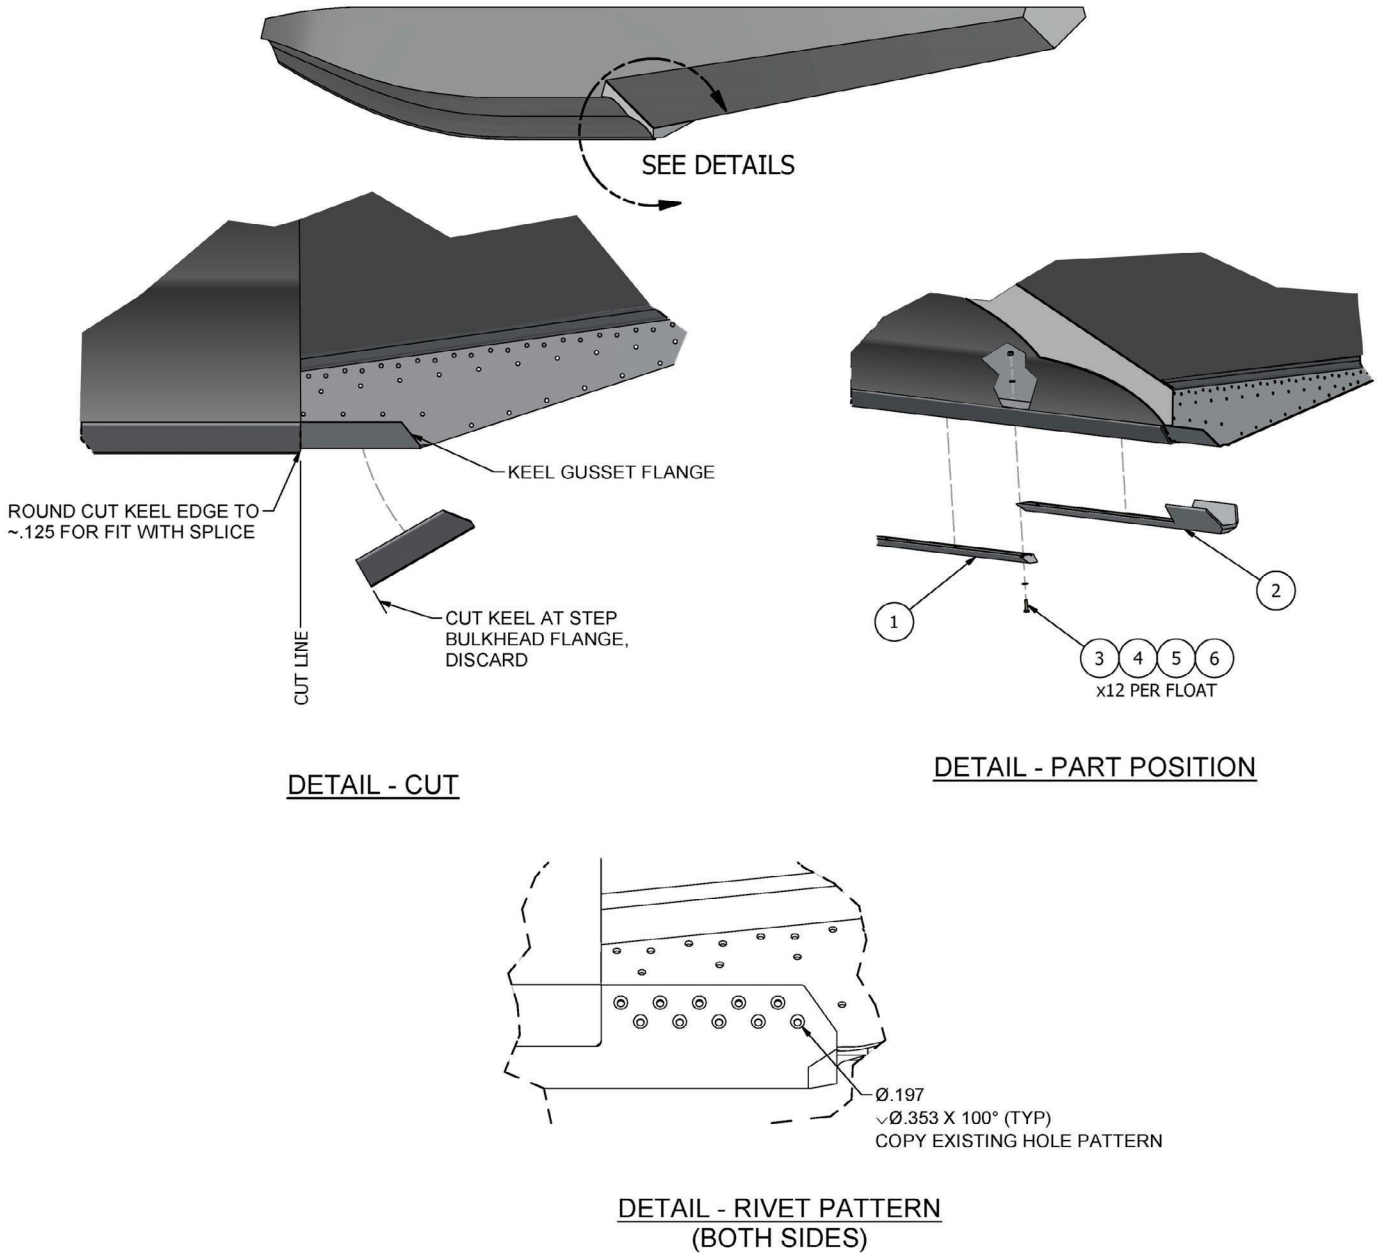

Figure 1
3. Cut keel at step bulkhead, taking care not to cut into skeg or keel gusset flanges. Cut will need to be rounded at bottom edge of keel for tight mate with 1012223 splice piece. See detail in Figure 1.
6. Butt/lap 1012278 wear strip up against 1012223 splice piece. Match drill (11) locations through float keel.
7. Wet install 1012223 splice piece. Rivet with MS20426AD6 rivets and fasten at forward end with (1) each of: AN3-6A, NAS1149D0316J (head side), NAS1149D0363J (nut side), MS21044N3.
8. Wet install wear strip and fasten with (11) each of: AN3-6A, NAS1149D0316J (head side), NAS1149D0363J (nut side), MS21044N3.